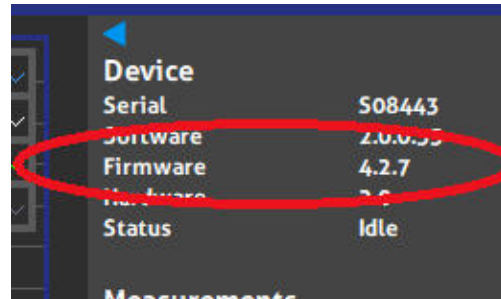

Figure 4.25: Location of current firmware revision number.
7. Start the **waveScan** spectrometer software. You should see the new firmware revision number on the right side of the control software (see figure 4.25).